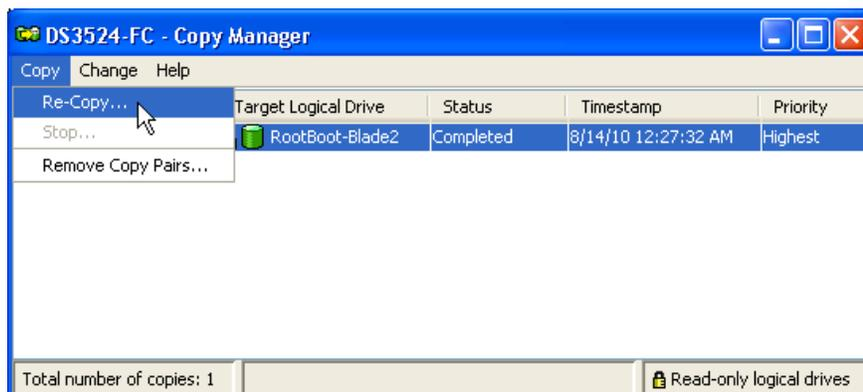

Figure 3-14 Copy Manager: Re-Copy menu
3. Select **Logical Drive** → **VolumeCopy** → **Copy Manager**. (Or right-click and select **Copy Manager**.) The Copy Manager window (Figure 3-14) opens.